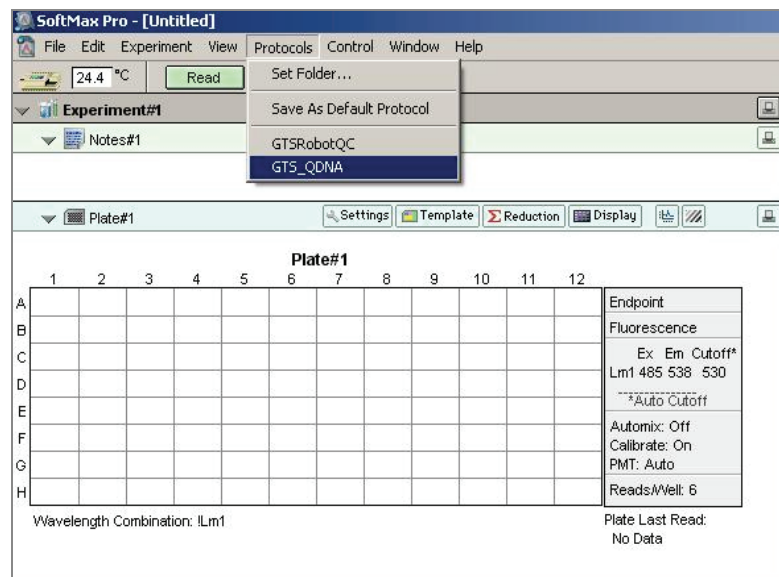

Figure 20 Load the Illumina QDNA Protocol in SoftMax Pro
3. Select **Protocols | GTS_QDNA** (Figure 20).